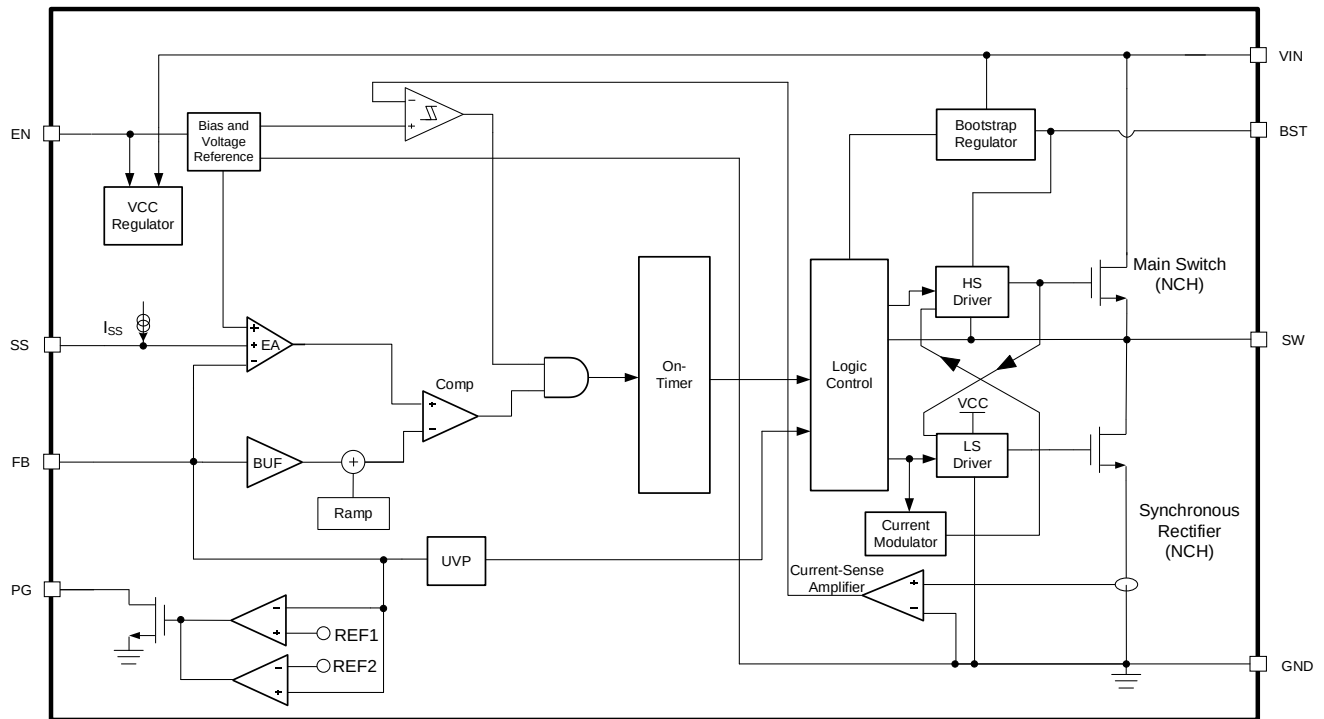

Figure 1: Functional Block Diagram
The MP2328C has a valley current limit. While the LS-FET is on, the inductor current is monitored. When the sensed inductor current (I_L) reaches the valley current limit, the LS limit comparator (see Figure 1 on page 13) turns over and the device enters over-current protection (OCP) mode. The HS-FET does not turn on again until the valley current limit disappears. Meanwhile, V_{OUT} drops until V_{FB} falls below the FB under-voltage (UV) threshold. Once a UV condition is triggered, the MP2328C enters hiccup mode (after SS) to periodically restart the part.